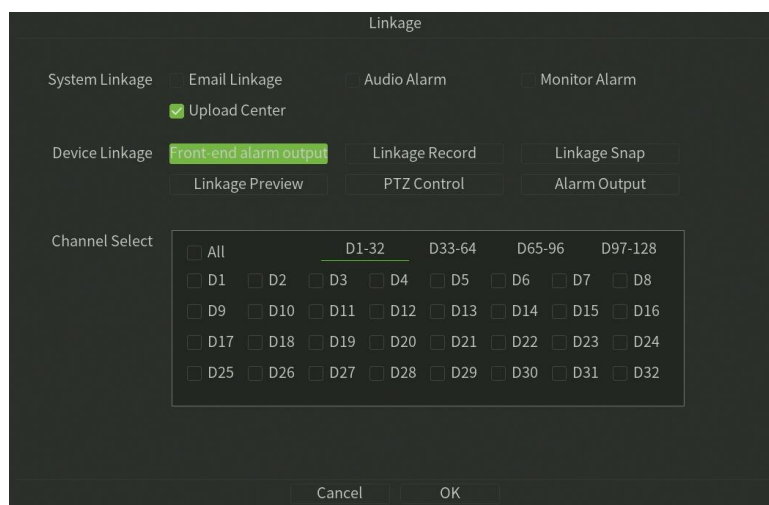

Figure 7.10 Linkage
11. **Linkage:** Click Linkage button, Setup the linkage operation of the function, as shown in figure 7.10.